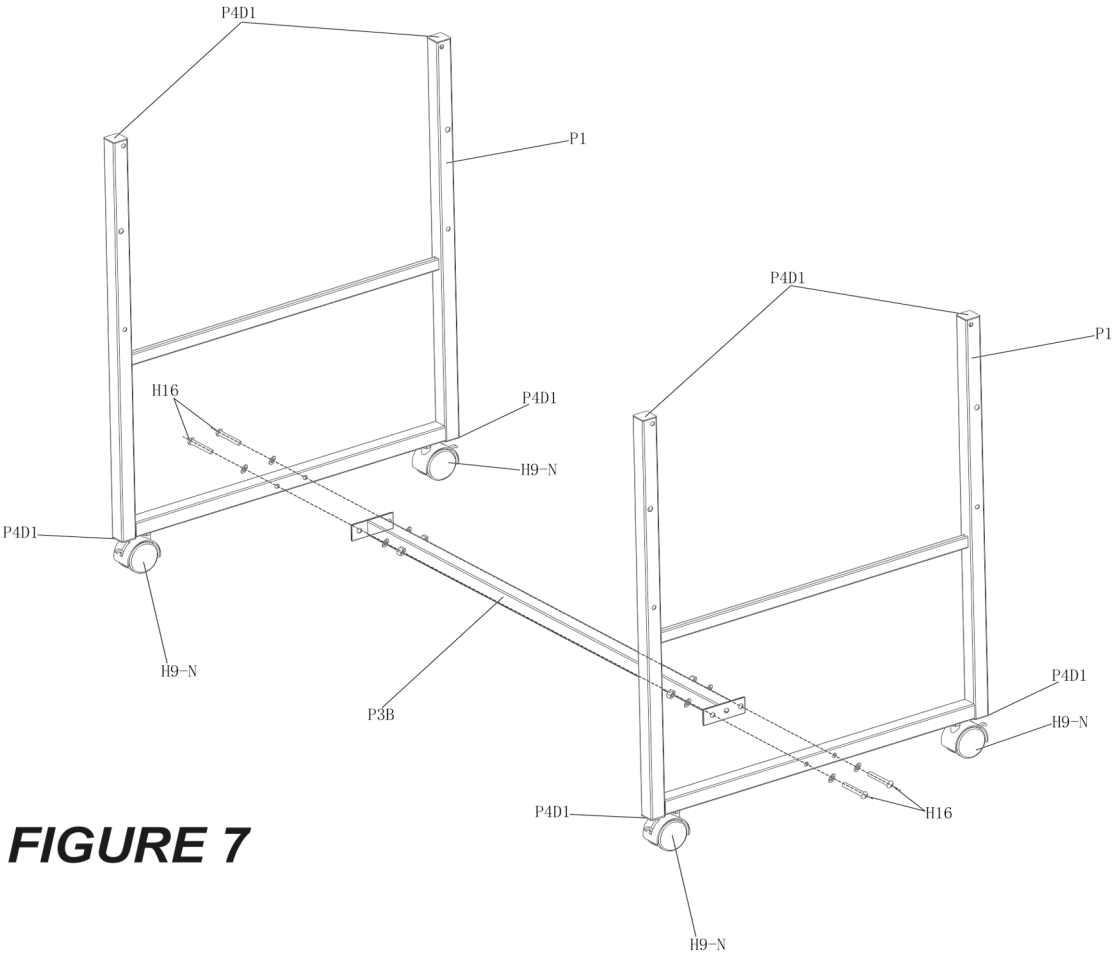

FIGURE 7
STEP 7 Connect the square tube P3B to U leg tube P1 with bolt H16 , turn both U legs in upright position. See figure 7.